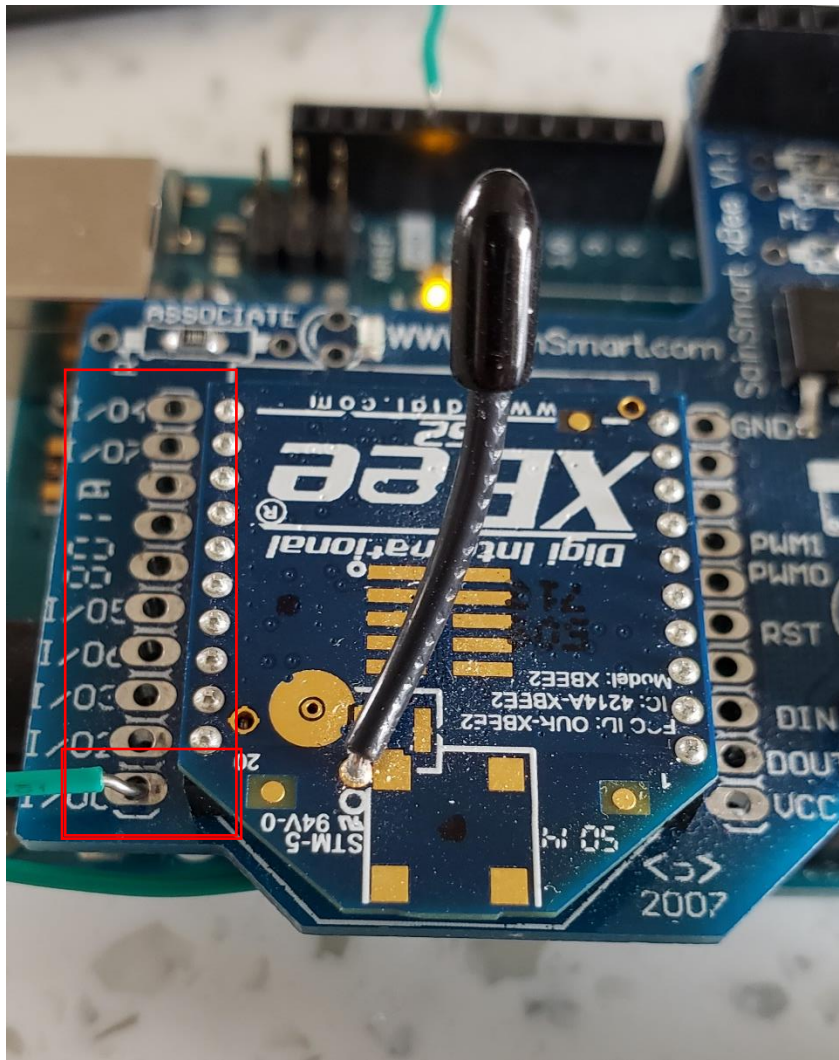

Figure 6: Xbee interface to Router (DIO pins highlighted / DIO 0)
- These are the DIO pins on your physical Xbee. See figure 6. These can be configured for several different modes but for this example we will select a digital input. DIO/ 0 was used for this experiment.